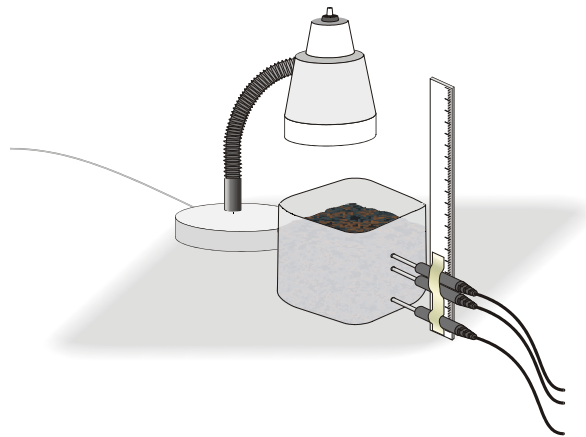

Figure 2
4. The Temperature Probes must be parallel to the table during data collection. Secure them in this position by taping them to a ruler as shown in Figure 2.